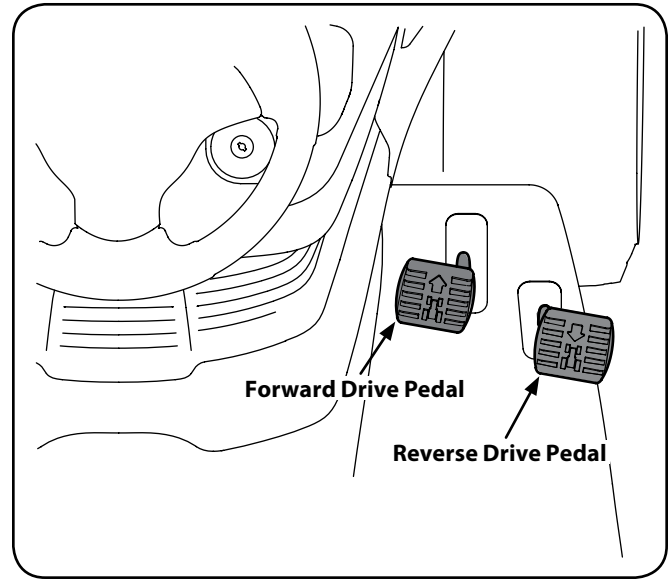

Figure 5-2
1. Lightly press the brake pedal (○) to release the parking brake (P). Move the throttle lever into the FAST  position.
2. To travel FORWARD, slowly press the forward drive pedal  forward until the desired speed is achieved. See Figure 5-2.
3. To travel in REVERSE, check that the area behind is clear then slowly depress the reverse drive pedal  until the desired speed is achieved. See Figure 5-2.